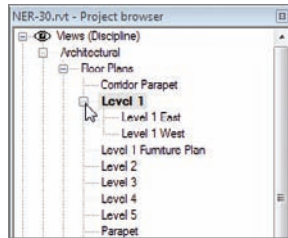

FIGURE 13.2 Creating the two views dependent on Level 1
4. Select Duplicate View > Duplicate As A Dependent. You now have two views nested under Level 1 (see Figure 13.2).
5. Right-click on the Dependent (2) on Level 1 dependent view.
7. Rename the other dependent view to Level 1 West (see Figure 13.2).